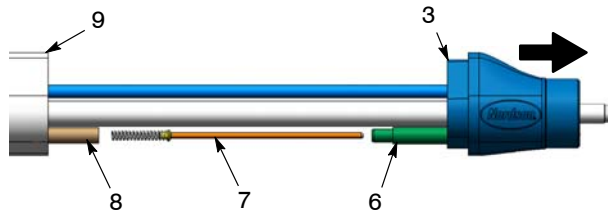

Figure 26 Removing the Resistor – Tube-Mount Guns
Tube-Mount Guns: See Figure 26. Pull the adapter (3) away from the body tube (9) far enough to access the cable guide (8) and resistor guide (6).
1. See Figure 26 or 27. Inject 0.6 cc of dielectric grease into the resistor guide (6).
4. Tube-Mount Guns: Slide the cable guide (8) over the end of the resistor guide, then push together the adapter (3) and body tube (9).